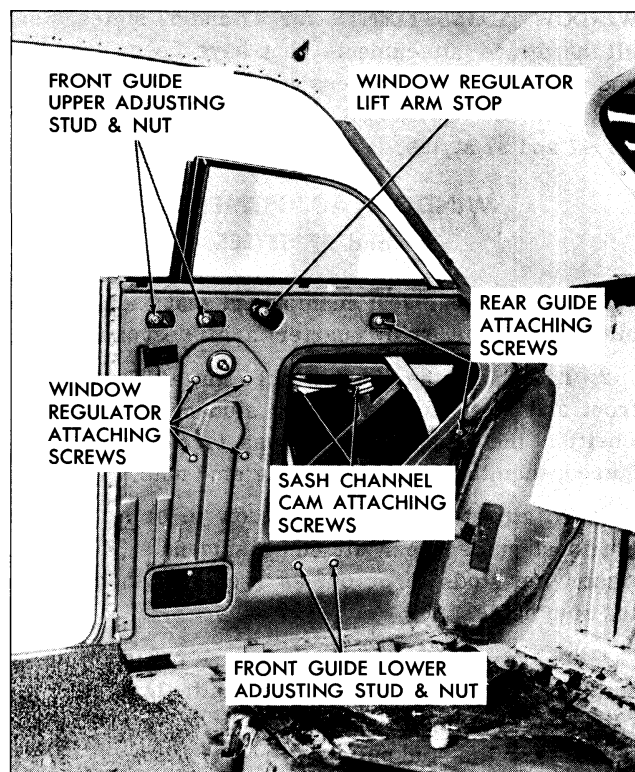

Fig. 4-7 Rear Quarter Hardware - 47 and 57 Styles
2. Remove rear quarter window rear guide attaching screw (Fig. 4-7). Disengage rear guide from roller on window lower sash channel and remove guide.
screws (Fig. 4-7). Detach cam from roller on regulator arm and remove cam.
4. Remove quarter window front guide adjusting stud nuts (Fig. 4-7).
2. To adjust the window fore or aft, loosen the front and rear guide attaching stud nuts (Fig. 4-7). Position the window and guides fore or aft as required; then tighten the attaching stud nuts.
3. To adjust the quarter window in or out, loosen the front guide upper attaching stud nuts (Fig. 4-7). Adjust the studs in or out as required; then tighten the stud nuts.
4. To adjust the top of the quarter window in or out, loosen the front guide lower attaching stud nut (Fig. 4-7). Adjust the stud in or out as required; then tighten the stud nut.
5. To relieve a binding condition between the channels of the front and rear guide, loosen the front and rear guide adjusting stud nuts (Fig. 4-7). Operate window to full up position and tighten upper stud nuts on the front guide and forward attaching screw on rear guide. Operate window to full down and tighten remaining nuts.
6. To limit the forward and upward travel of the rear quarter window, adjust the regulator lift arm stop as required (Fig. 4-7).
4. Remove window regulator attaching screws (Fig. 4-7) and remove regulator through large access hole.
2. With window in "up" position, remove the window front guide upper and lower attaching stud nuts (Fig. 4-7).
2. With the window in the "up" position remove the window rear guide attaching screws (Fig. 4-7). Disengage guide from roller on window lower sash channel and remove guide through access hole.